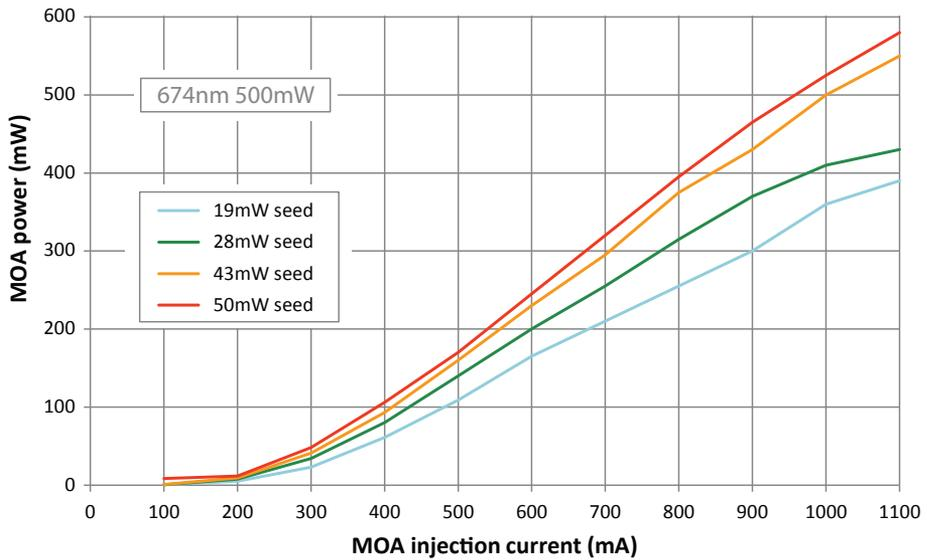

Figure 2.5: TA output against diode current, for several different injection seed laser powers (measured pre-isolator).
5. Measure the PI curve (see figure 2.5). Make sure that the output power is comparable to the factory test results. Do not increase the TA current significantly if the threshold current (i.e. the current at which the TA output power is more than a few milliwatts) and the slope are not comparable to the factory test results. Further optimisation of the seed alignment and focus may be necessary.